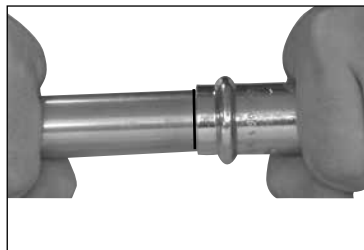

Figure 6 — Inserting the tube to proper depth
1. Make sure the tubing is inserted to the proper depth in the fitting. (*Figure 6*).